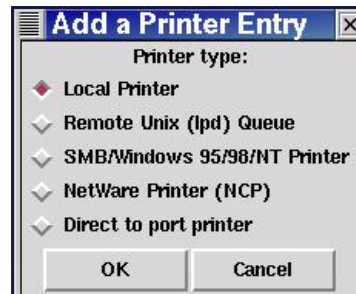

Figure 16-15 Adding a new printer.
3. **Add a new printer.** Click the Add button in the dialog box and a dialog box for adding a new printer appears. (See Figure 16-15.) Select Local Printer and click OK.